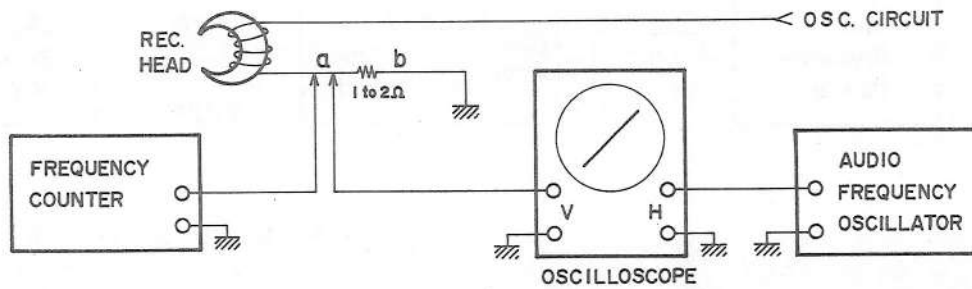

Fig. 22
- 1) As shown in Fig. 22, install a 1 to 2Ω resistor in series with the recording head and connect both of these terminals (a) and (b) to the vertical input of the oscilloscope.
- 1) Connect a frequency counter to both (a) and (b) terminals as shown in Fig. 22. Set tape deck to recording mode and take a frequency counter reading.